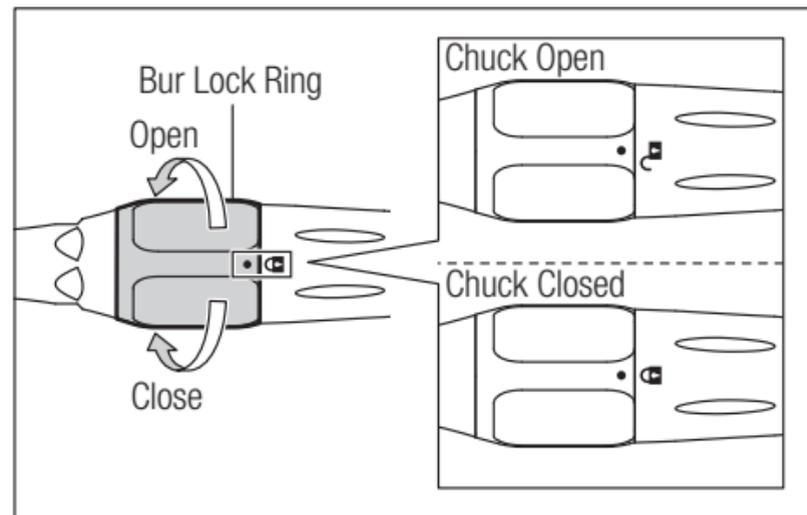

Fig. 2
- 1) Turn the Bur Lock Ring in the direction of the "🔓" mark until it clicks. (Fig. 2)
- 2) Turn the Bur Lock Ring to the OPEN position. (Fig. 2)